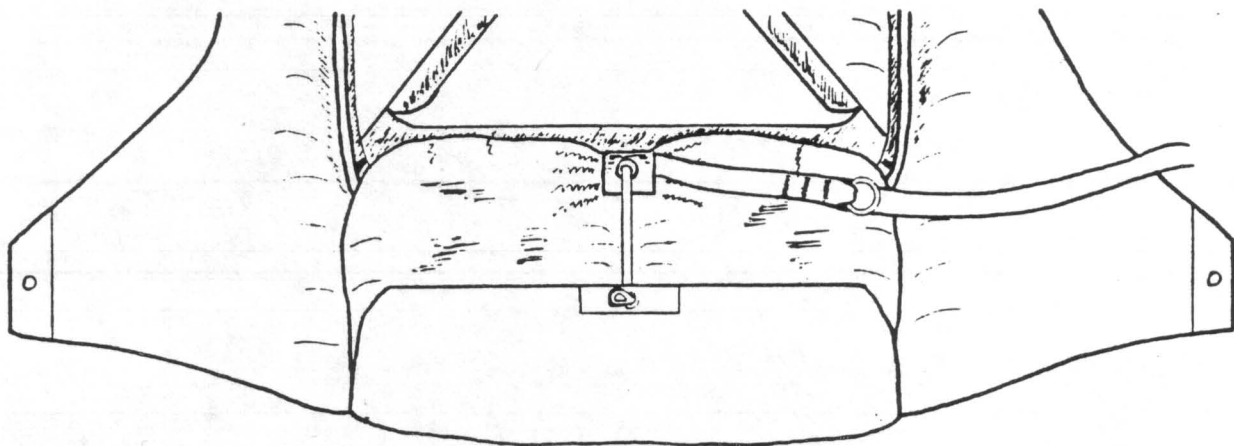

FIG. 9
10) Thread the pull-up cord through the closing loop and bring the closing loop over the top of the bag. The bridle should be routed to the right of the closing loop. Thread the pull-up cord through the bottom flap grommet and close the bottom flap (FIG. 9).